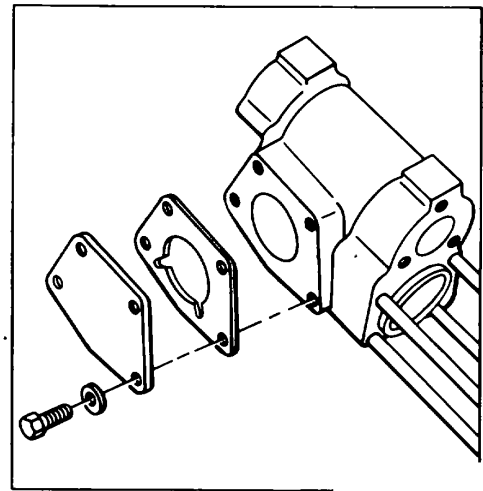

Figure 172.
15. Remove selflocking nut (44), washer (66), and piston (45) from rod assembly (67).
16. Inspect servo studs (15). Remove only if the threads have been damaged or if the studs are twisted or broken.
17. Remove four hex bolts (24), lock washers (25), housing cover (26), and gasket (27). See Fig. 172.